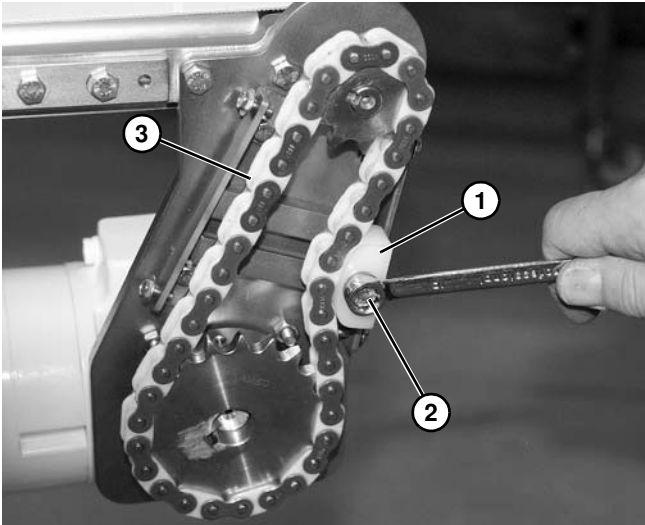

Figure 65
Do not overtension chain (Figure 65, item 3). Only tension chain until slack is removed.
- b. Slide chain tensioner (Figure 65, item 1) to take up chain slack. Tighten chain tensioner screw (Figure 65, item 2).